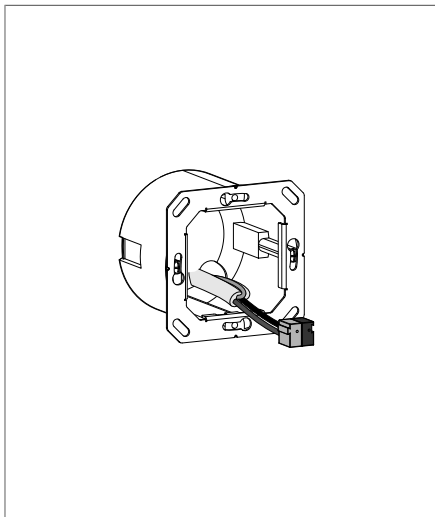

Fig. 4: Fitting the supporting ring
- 2 Install the supporting ring on an wall box (Fig. 4).